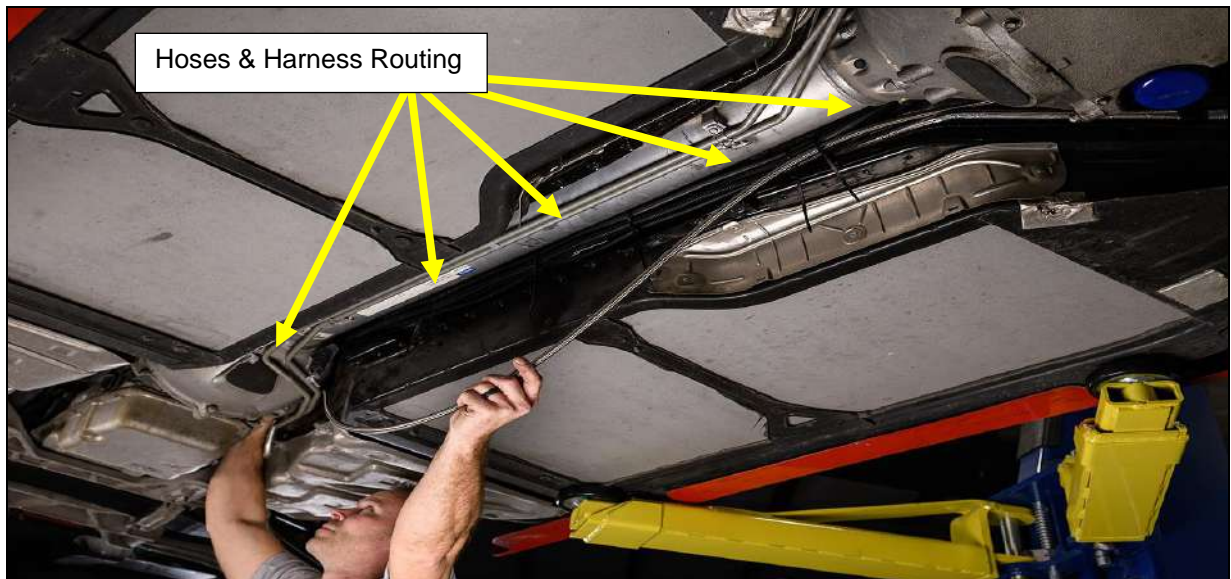

Figure 36
2. Route the oil return hoses, oil pump harness, wastegate boost line, PCV vent line (if being used for CARB certified applications), and the oil supply line. Route hoses and lines down the torque tube tunnel along existing hard lines clamped to the body. Use the supplied cable ties to secure the lines as you go (Figure 36).